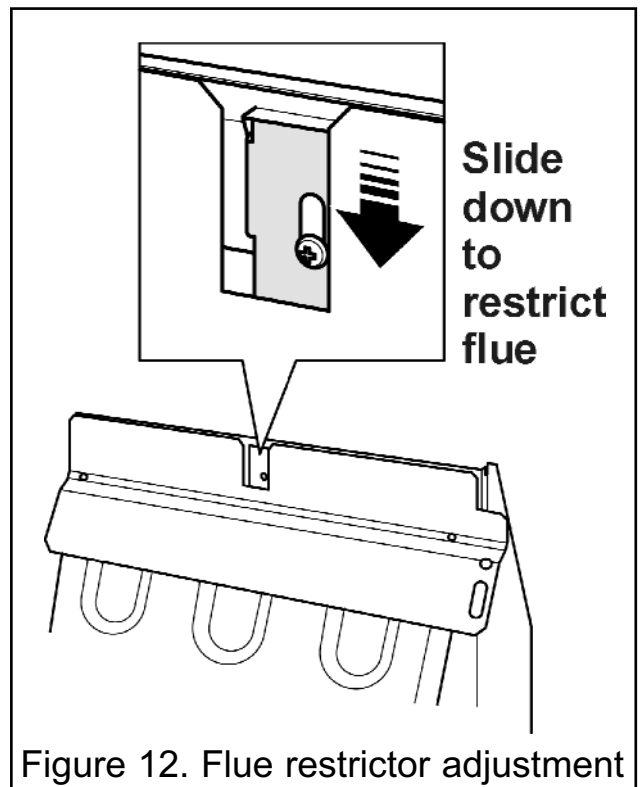

Figure 12. Flue restrictor adjustment
1. Loosen the screw situated behind the cut-out in the black upper heat shield. Do not fully remove the screw (See figure 12).